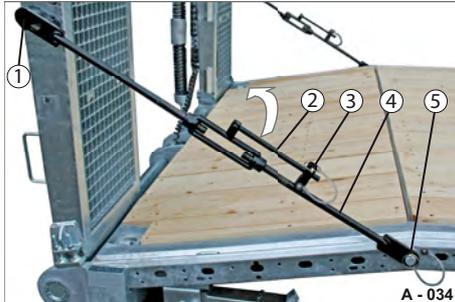

Fig. 44 Unlocking the securing tensioner
► Pull out the locking pin (Fig. 44/3) and swing the lever (Fig. 44/2) upwards.
► Turn the lever (Fig. 45/1) until the securing tensioner (Fig. 44/4) has been relieved of strain. The securing tensioner is slack and can be removed at the top from the gudgeon (Fig. 44/1).